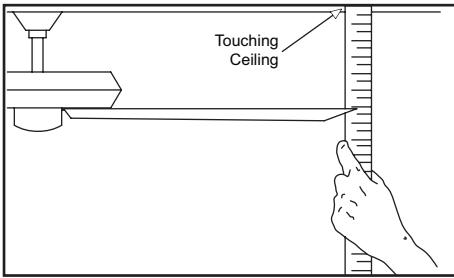

Figure 17
2. Most fan wobble problems are caused when blade levels are unequal. Check this level by selecting a point on the ceiling above the tip of one of the blades. Measure from a point on the center of each blade to the point on the ceiling. Measure this distance as shown in Figure 17. Rotate the fan until the next blade is positioned for measurement. Repeat for each blade. Measurements deviation should be within $1/8"$. Run the fan for 10 minutes.